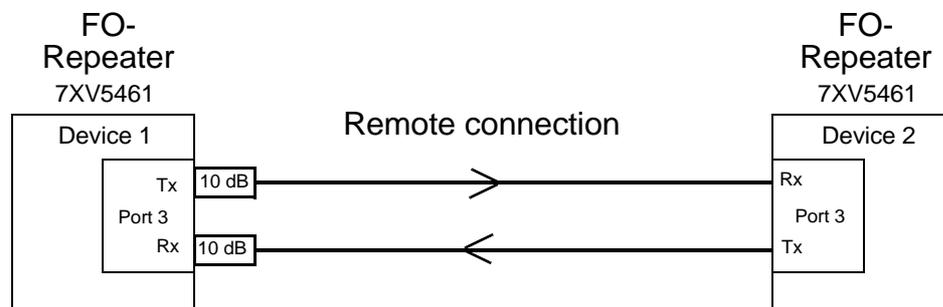

Figure 12 Connecting the LC duplex connector via two attenuators to port 3
For mounting the attenuators remove their protective caps. Plug one attenuator each, with the ratchet lever pointing upward, into the Tx and Rx connections of port 3. Afterwards, connect the LC duplex connector with the FO cable to the attenuators (see Figure 12, below).
The two attenuators may only be connected to one end of the optical wide area connection (see Figure 12, above).
*Note:* One attenuator is delivered pro 170 km device variant. When using two of these device variants for communication, both delivered attenuators must be connected to the same end of the optical long-distance connection (see Figure 12, below).